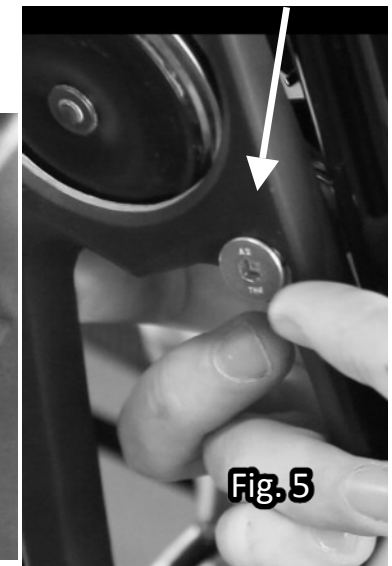

Fig. 5
- 6 Position Chin Fairing in place, align horn through the hole in the Chin Fairing. Carefully tighten the bolt making sure the horn is aligned with the hole in the Chin Scoop (use loctite). Fig. 5